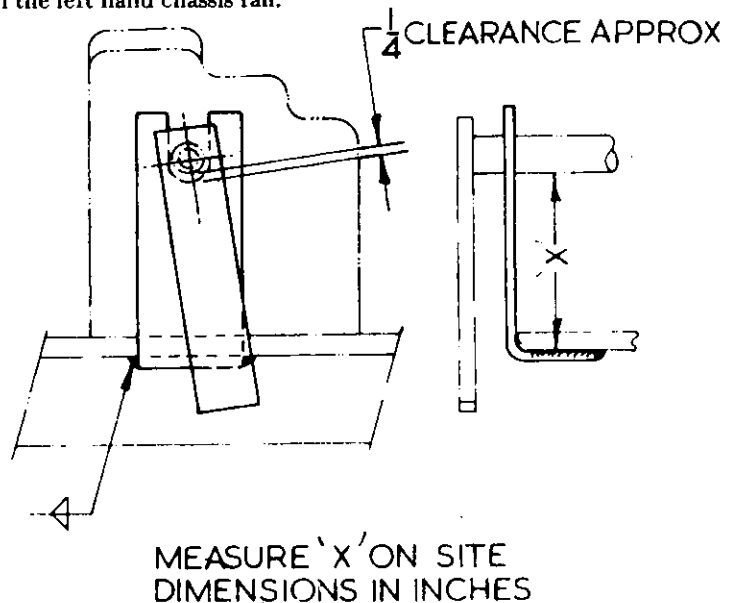

FIG 2 - SUPPORT BRACKET POSITIONING DETAIL
- c. Weld the support bracket to angle iron as shown in Fig 2.